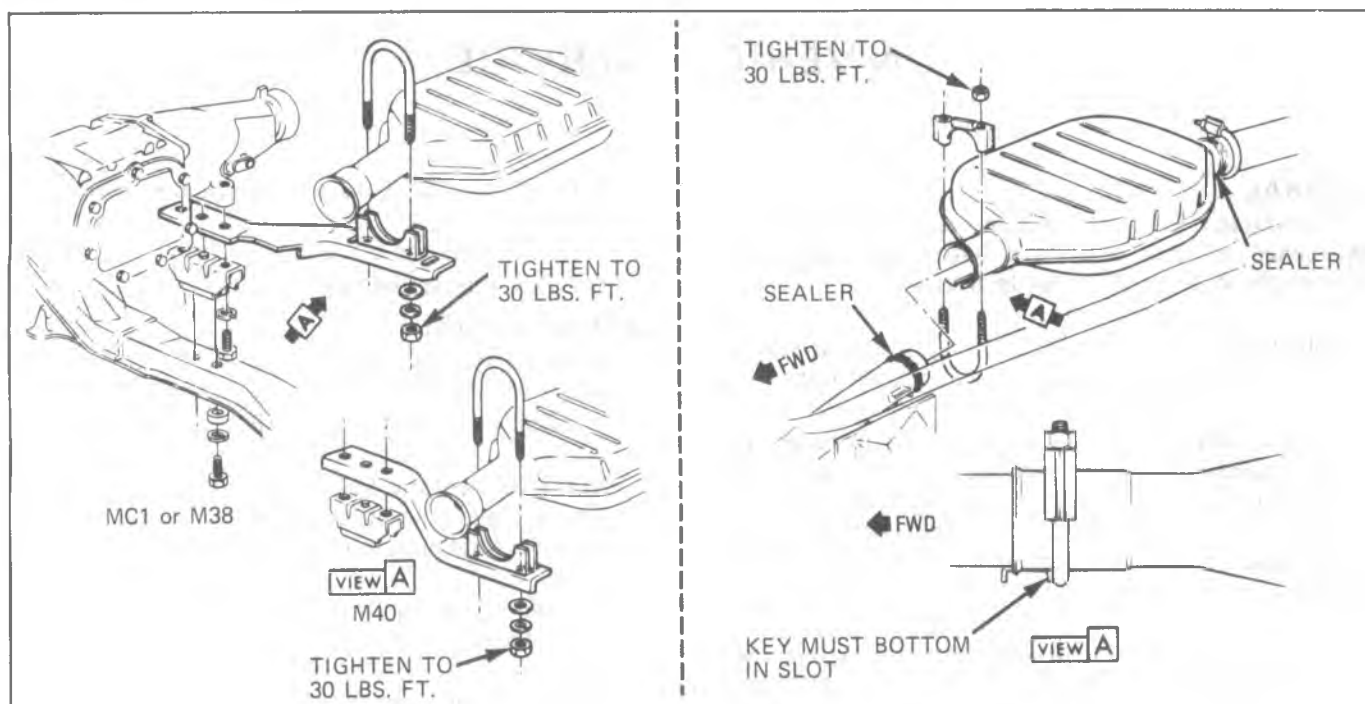

Fig. 6F-1-Catalytic Converter - CK Series
If built with a pressed plug, install service fill plug (Fig. 6F-10), as follows: Install the bolt into the bridge and position the bridge into converter opening. Move bolt and bridge back and forth to dislodge catalyst beads until bridge is positioned (Fig. 6F-11).
9. While holding the fill plug and washer against the bolt head (Fig. 6F-12), thread the bolt 4 of 5 turns into the bridge. Release the fill plug and the aspirator will pull the fill plug into position.